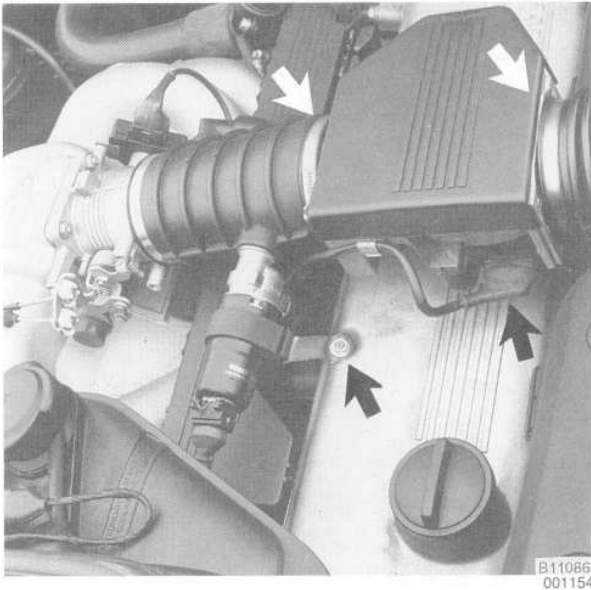

Fig. 4. Idle air stabilizer valve and bracket, air flow sensor connector, and hose clamps to be removed/disconnected (arrows).
1. Loosen the hose clamps for the intake air ducts. Disconnect the harness connector from the air flow sensor. Remove the idle air stabilizer bracket mounting nut and pull the valve out of the intake air boot. See Fig. 4.